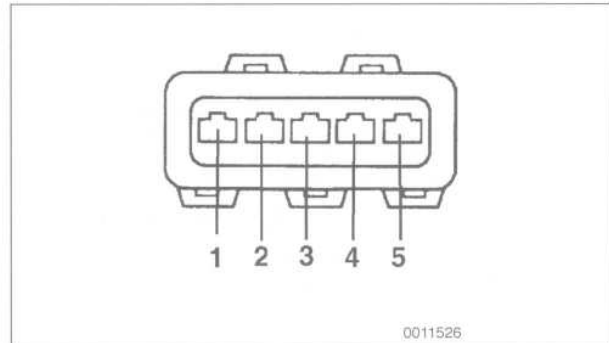

Fig. 10. Volume air flow sensor harness connector terminal identification for DME 1.3.
2. Connect a voltmeter to terminal 3 in the connector. See Fig.10. With the ignition on, there should be approximately 5 volts. If any faults are found, check the wire from the ECM.